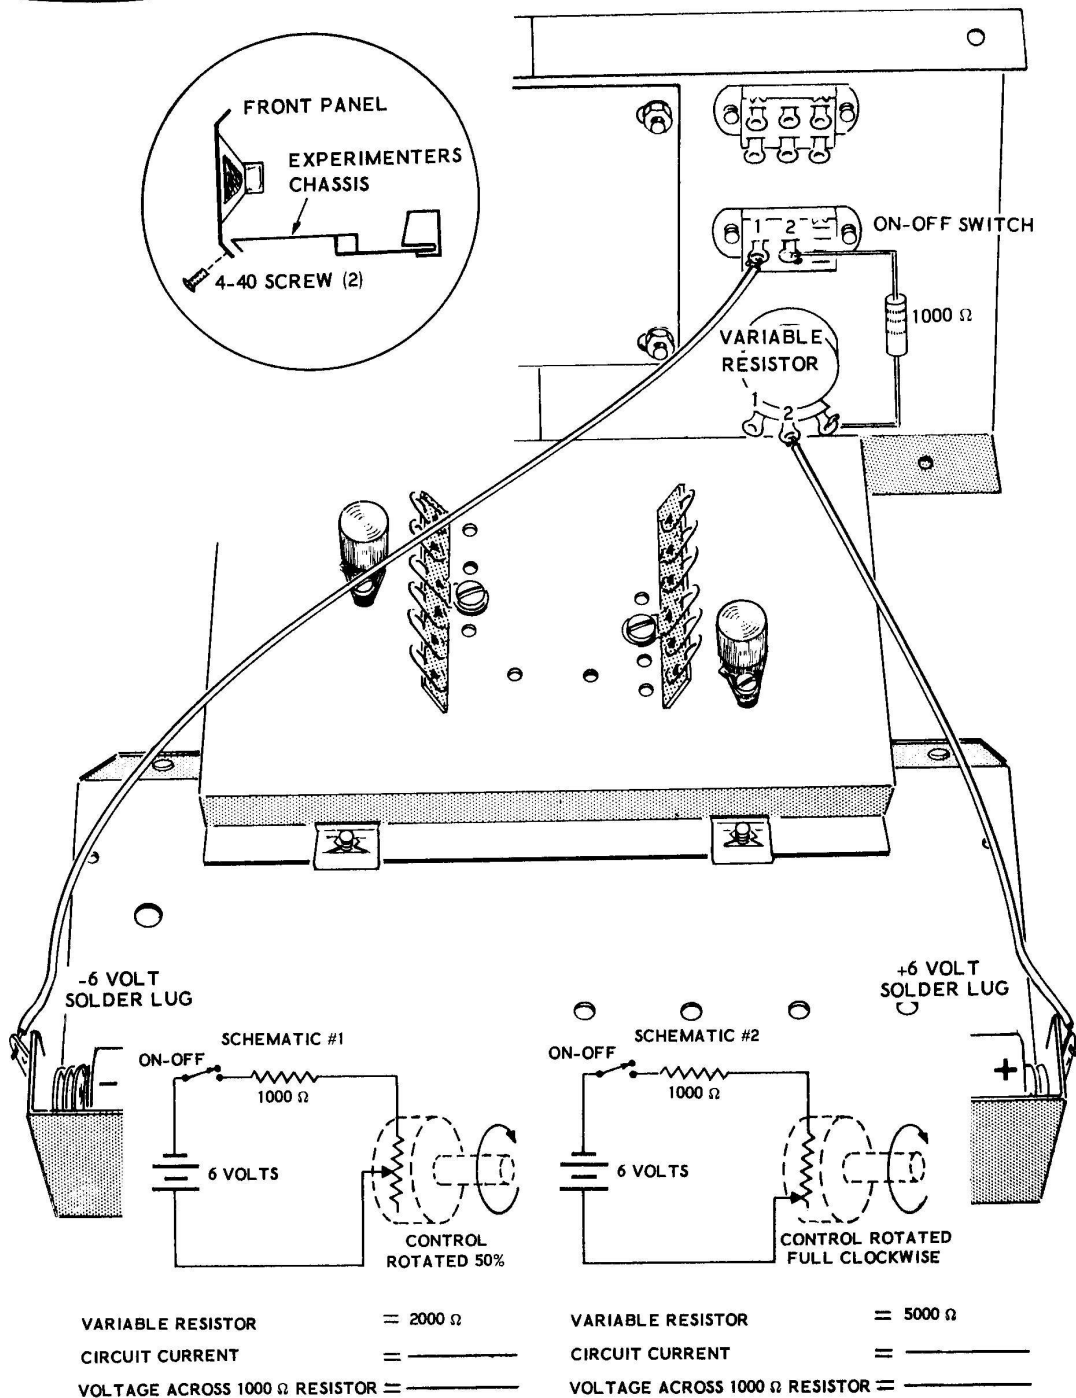
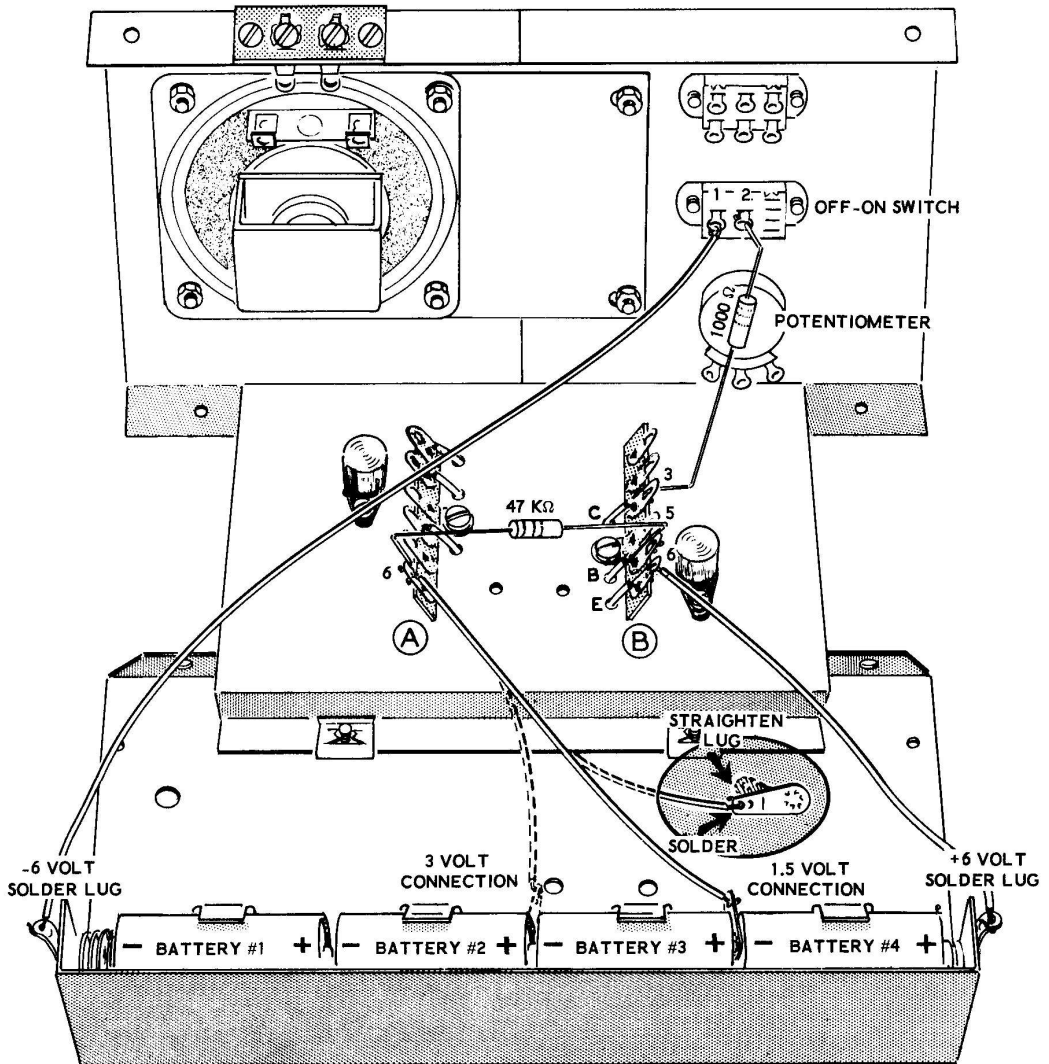

Figure 3K
Figure 3L
- () Fasten the assembled front panel to the front lip of the experimental chassis as it is in the inset in Figure 3K by installing two 4-40 screws into the 4-40 speednuts on the front flange of the experimental chassis.
Refer to Figure 3K for the following steps.
- () Connect a 12" length of hookup wire from the -6 volt solder lug (S) to lug 1 of the ON-OFF switch (S).
- () Connect a 1000 Ω resistor from lug 2 of the ON-OFF switch (S) to lug 3 of the variable resistor (S).
- () Connect an 8" length of hookup wire from lug 2 of the variable resistor (S) to the +6 volt solder lug (S).
- () Remove your meter leads from lugs 2 and 3 of the variable resistor. You have now adjusted the variable resistor to give you the circuit of Schematic #1 of Figure 3K.
- () Connect the minus voltmeter lead to lug 2 of the ON-OFF switch and connect the positive voltmeter lead to lug 3 of the variable resistor. Turn the ON-OFF switch ON. Note the reading on the meter. This is the voltage across the 1000 Ω resistor. Mark it down in the correct blank below Schematic #1 of Figure 3K.
- () The circuit has now been adjusted so that your meter will read the current flowing in Schematic #2 of Figure 3K. Note the current reading on the meter and write it down in the proper blank below the schematic.
- () Now connect the negative meter lead to lug 2 of the ON-OFF switch and connect the positive meter lead to lug 3 of the variable resistor. Note the voltage reading on the meter and insert it in the proper blank below Schematic #2 of Figure 3K.
Refer to Figure 3L for the following steps.
- () Disconnect the 1000 Ω resistor lead from lug 3 of the variable resistor and connect it instead to lug 3 of terminal strip B (S).
- () Disconnect the lead from lug 2 of the variable resistor and connect it instead to lug 6 of terminal strip B (S).
- () Connect a 47 K Ω resistor from lug 6 of terminal strip A (NS) to lug 5 of terminal strip B (S).
- () Connect a #6 solder lug to one end of a 6-1/2" hookup wire as shown in the inset drawing of Figure 3L (S). Squeeze the solder lug out flat with pliers before soldering the lead to it.
NOTE: The experimental chassis is now wired with the circuit shown in schematic #1 of Figure 3L. To make the schematic diagram easier to follow, the battery which controls the current in the transistor is shown separately. Actually it is battery #4 that is used for this purpose, as well as its normal purpose of supplying power to the rest of the circuit (in series with the other three batteries). The 47 K Ω resistor is used only as a protective device (current limiter) in the circuit, and it should not be considered as an integral part of the experiment.
- () The circuit of Schematic #1 is now completed since your meter bridges across the ON-OFF switch. Note the reading on the meter and mark it down in the blank for measured circuit current (I) on Schematic #1 of Figure 3L.
- () Turn the ON-OFF switch to the ON position and note the reading on the meter. Mark this voltage reading down in the blank for the "measured voltage across R1," the 1000 Ω resistor at Schematic #1 on Figure 3L.
SCHEMATIC #1 OF FIGURE 3L
SCHEMATIC #2 OF FIGURE 3L
- () Note the current indicated by the meter and mark it down in the blank for "measured Circuit Current" (I) at Schematic #2 of Figure 3L.
- () Turn the ON-OFF switch ON and note the meter reading. Mark this voltage reading down in the blank for "measured voltage across R1" at Schematic #2 in Figure 3L.
When you have calculated this resistance, mark it down in the correct blank at Schematic #1 of Figure 3L.
- () When this transistor resistance has been calculated, mark it in the proper blank at Schematic #2 of Figure 3L.
Experiment 1 (Figure 3K) showed how current can be controlled with a variable resistor. By changing the setting of the variable resistor, the current in the circuit changed and when the current changed, it changed the voltage across resistor R1. Experiment 2 (Figure 3L) showed that the same type of control can be accomplished using a transistor in place of the variable resistor. Notice that the voltage at R1 was changed by changing the voltage connected between the Base and the Emitter of the transistor. When this voltage at the Base of the transistor was changed, it changed the resistance of the transistor in the series circuit. When the resistance of the transistor changed, it changed the current flowing in the circuit just as the variable resistor did. The result of the current change was the same as the result obtained in Experiment 1, the voltage across R1 changed.